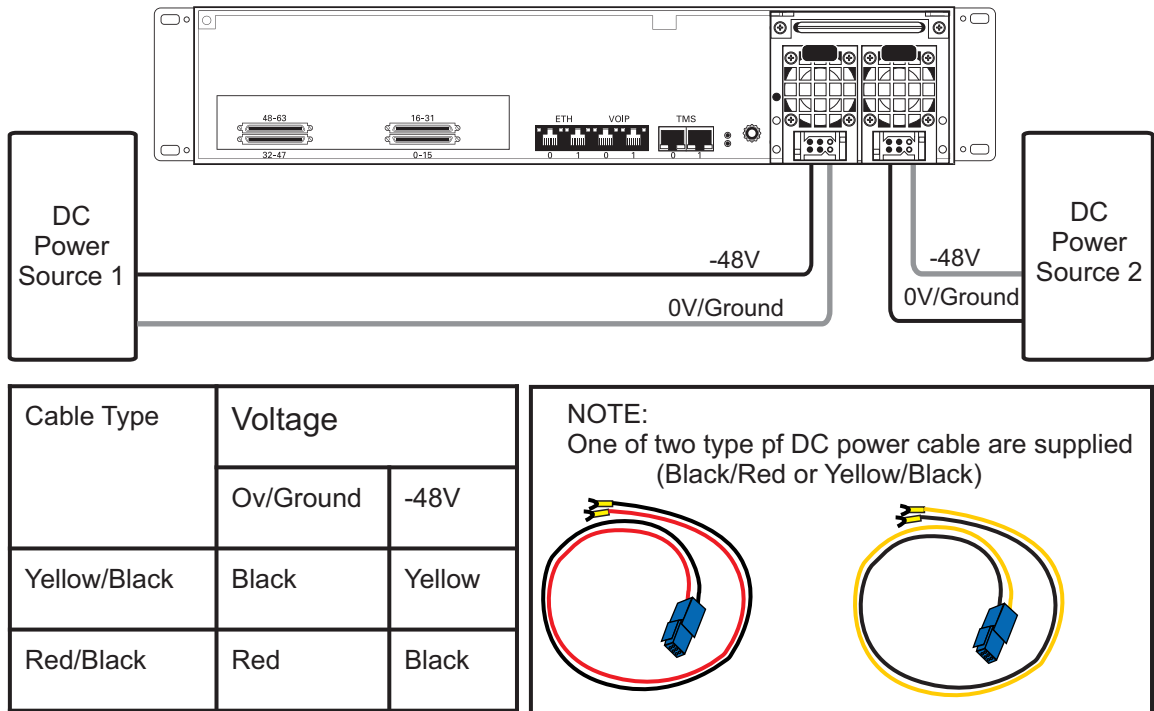

Figure 4.11 DC Power Connection
1. Connect one DC cable, supplied with the 7800 Telecom Unit, as shown in figure 4.11 on page 40, to the DC outlet at the rear of the 7800 Telecom Unit.
Note Two types of cable with different coloring are available. Refer to figure 4.11 on page 40 for the appropriate wiring information.